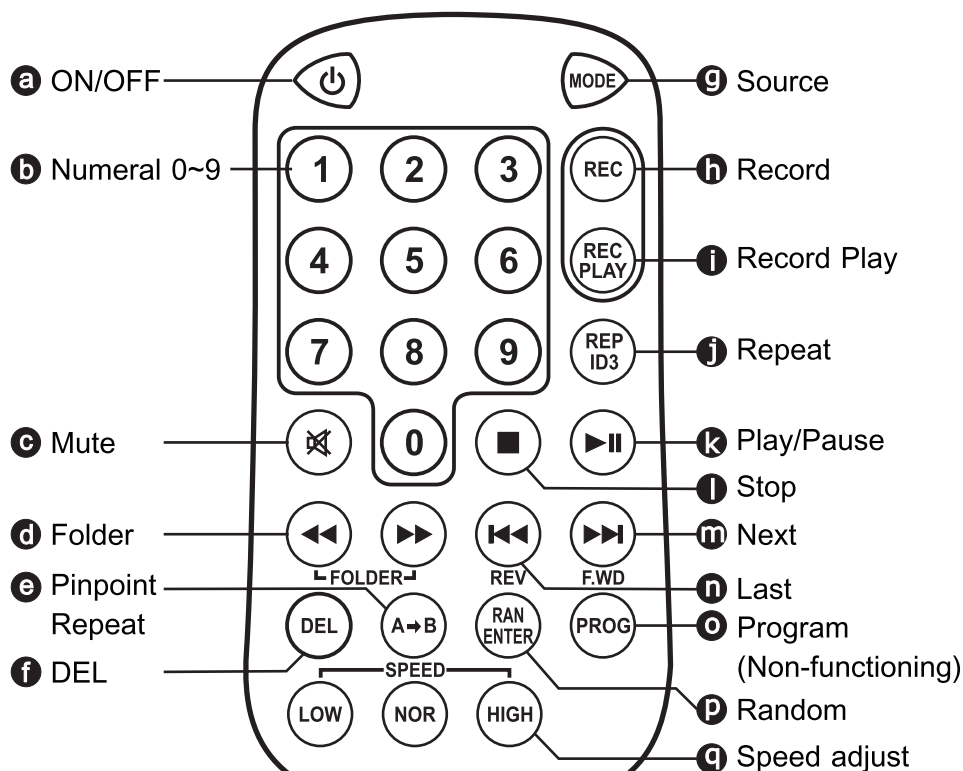

Fig. 6
- (1) Press the REC PLAY button 51 right after recording will play the last recorded track. Press the STOP button 50 first and then press the REC PLAY button 51, it will play the first track of the REC folder.
- (2) Press the REC PLAY button 51 to enter into recorded tracks. Press the REV / F.WD button 55 to search for tracks.
8. Remote Control for Media Player. Fig. 6: